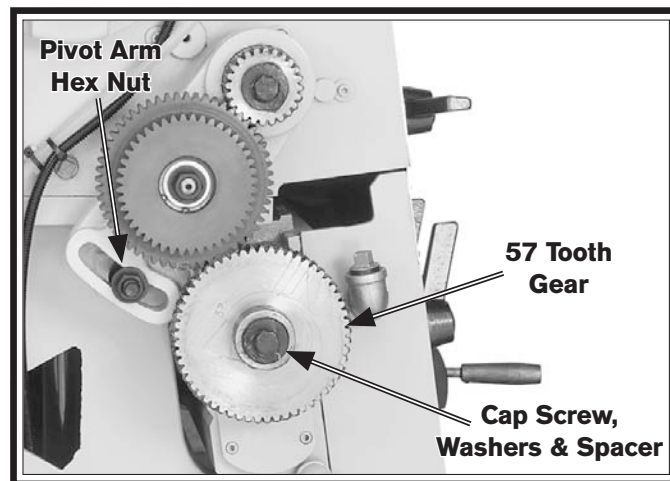

Figure 76. End gear components.
3. Remove the cap screw, lock washer, and flat washer from the 57 tooth end gear (see **Figure 76**).
- Loosen the pivot arm hex nut shown in **Figure 76**, then swing the pivot arm to the left so that the 44T/56T gears are away from the 57T gear. Hand tighten the hex nut to keep the arm in place.